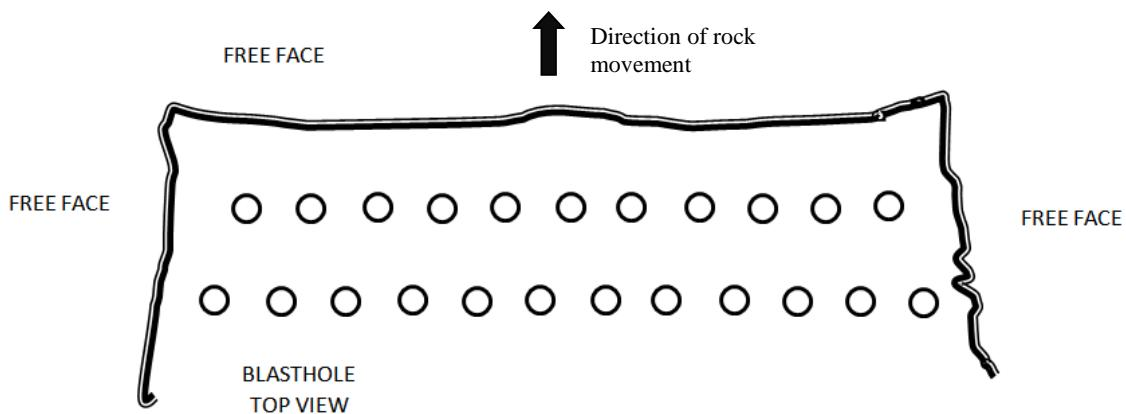

Figure 1/ Rajah 1
- (i). **Maximum** of two (2) holes per delay (Figure 1).